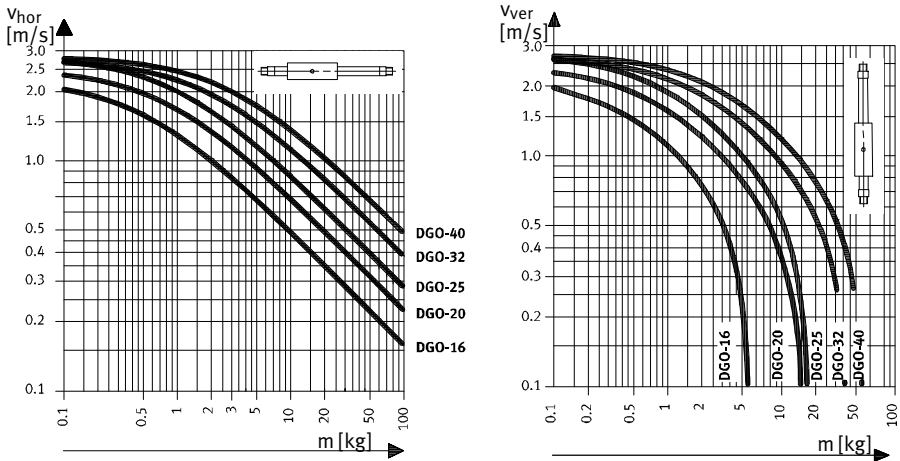

Fig. 9
- Make sure that the maximum limits are observed, especially for forces and torques (see Fig. 8) and maximum speeds (see Fig. 9).